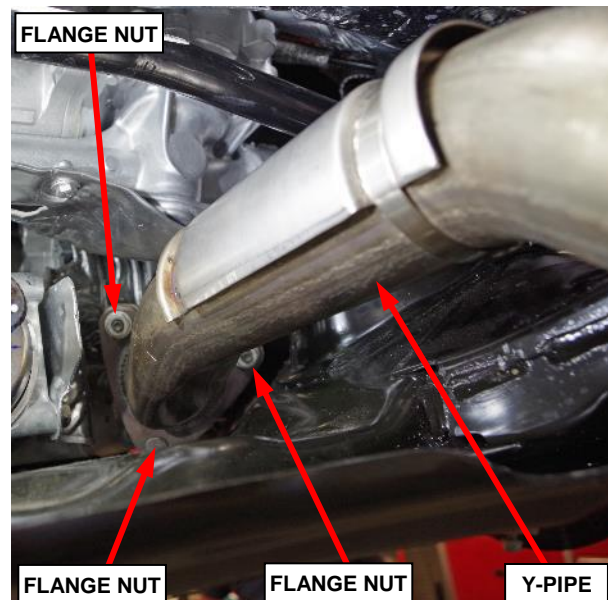

Figure 63 – Y-Pipe
- j. Remove and **DISCARD** the Y-pipe flange nuts securing the Y-pipe to the rear catalyst (Figure 63).